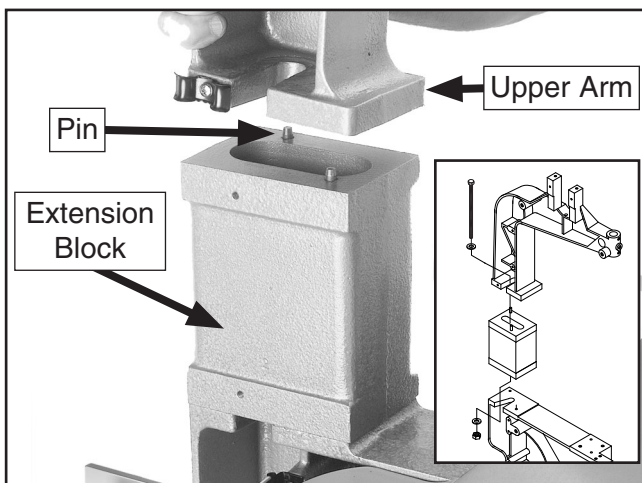

Figure 5. Placing upper arm on extension block.
7. Have an assistant place the upper arm onto the extension block pins (see **Figure 5**), and hold it in place.